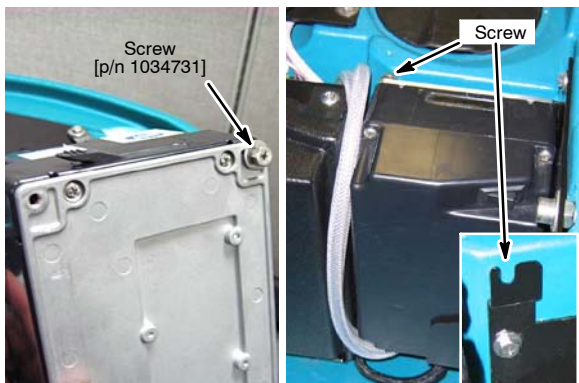

Fig. 18
- Thread one m6x1.00x16 sems screw [p/n 1034731] into the module as shown. Do not tighten screw. Install the module into the mounting bracket. Align screw with screw slot and tighten. Route the two module hoses as shown (Figure 18).